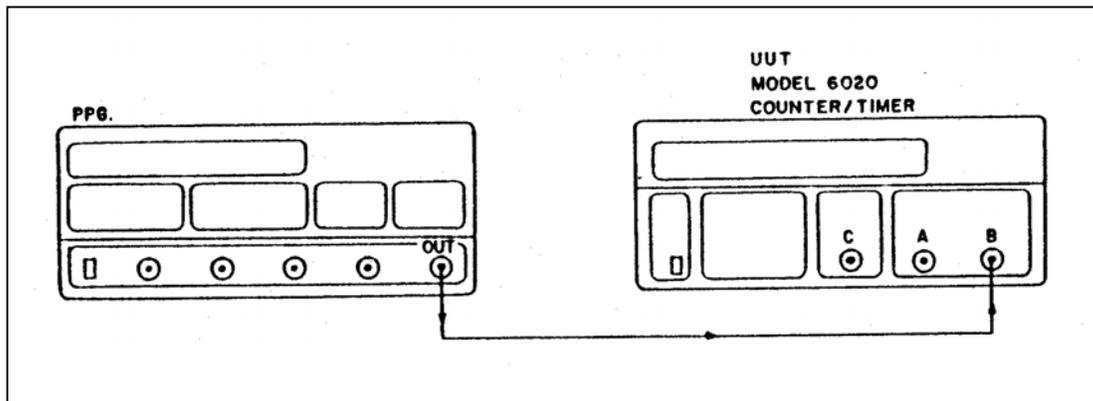

Figure 5-11. Totalize B Test Set-up.
1. Connect the test equipment as described in Figure 5-11.